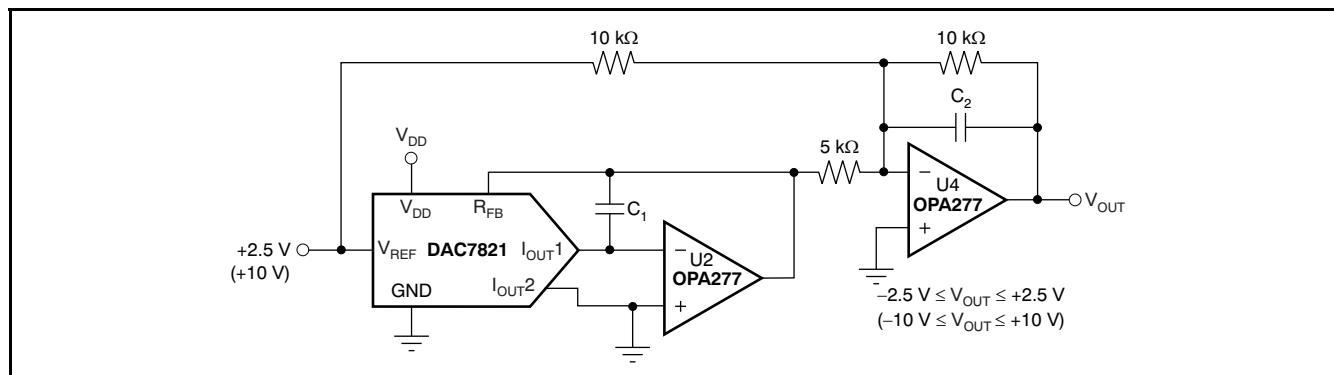

Figure 29. Bipolar Output Circuit
Some applications require full 4-quadrant multiplying capabilities or bipolar output swing. As shown in Figure 29, external op amp U4 is added as a summing amp and has a gain of 2X that widens the output span to 5V. A 4-quadrant multiplying circuit is implemented by using a 2.5V offset of the reference voltage to bias U4. According to the circuit transfer equation given in Equation 2, input data (D) from code 0 to full-scale produces output voltages of $V_{OUT} = -2.5V$ to $V_{OUT} = +2.5V$.
External resistance mismatching is the significant error in Figure 29.